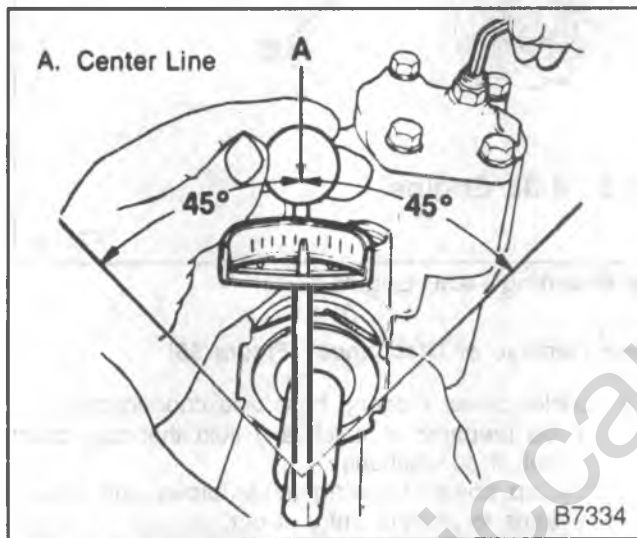

Figure 23—Checking Over-Center Rotational Torque
4. Place the torque wrench, with the handle in the vertical position, on the stub shaft. Rotate the torque wrench 45 degrees each side of the center and record the highest drag torque measured on or near center (figure 23).
5. Adjust over-center drag torque by loosening the adjuster screw jam nut (17) and turning the pitman shaft adjuster screw (73) clockwise until the correct drag torque is obtained.
Install or Connect (Figures 23 through 34)